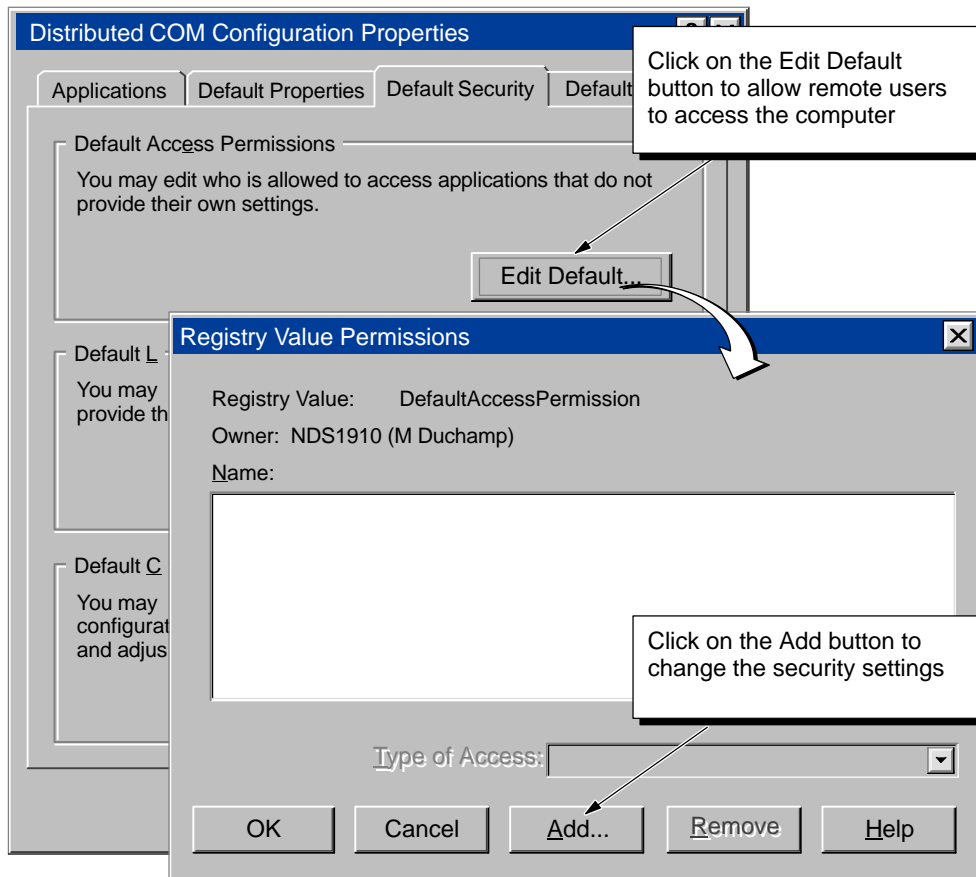

Figure D-4 Configuring the Default Access Permissions for DCOM
1. Click on the Default Security tab to display the security options for DCOM (Figure D-4).
8. Click on the OK button of the Registry Value Permissions dialog box to enter the changes to the default access permissions. The Registry Value Permissions dialog box closes and displays the Distributed COM Configuration Properties dialog box (Figure D-4).